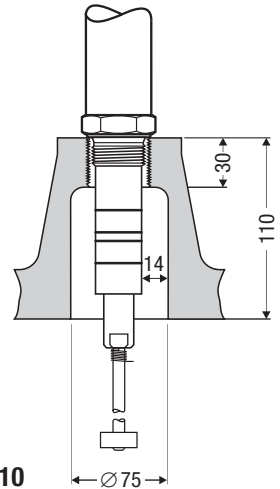
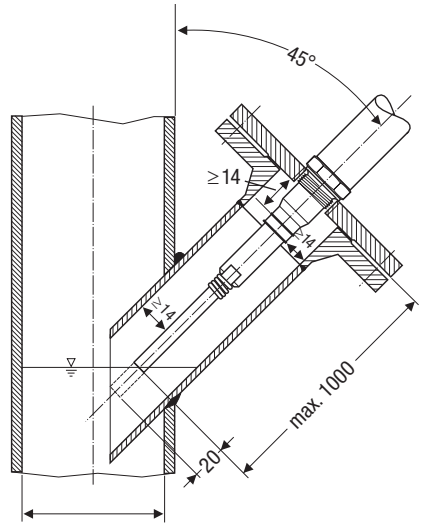

Fig. 10
Fig. 16
- Provide a min. spacing of 14 mm between electrode and earth (flange, boiler wall), **Fig. 10, Fig. 16**
- If the level electrode **NRG 111-11** is to be installed in a flanged standpipe DN 50 use only the GESTRA hat flange! **Fig. 10**
- When using the level electrode **NRG 111-11** take the pH limit value (10) and the max. admissible electrical conductivity (100 µS/cm at 25 °C) into consideration.
- When mounting the electrode laterally make sure that the inclination angle does not exceed 45° and that the length of the electrode rod is limited to 1000 mm. **Fig. 16**